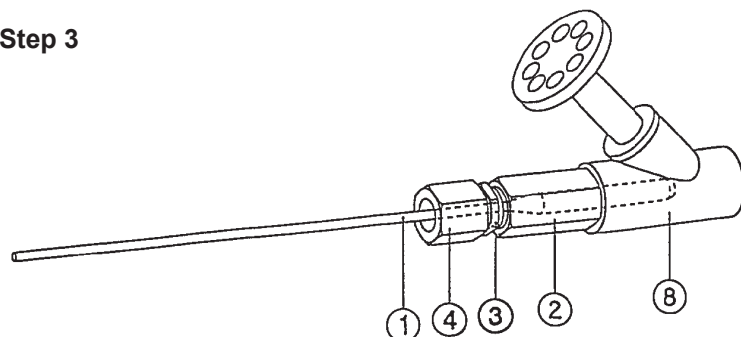

Fig. 5 - assembling the sluice
Fig. 5 shows how the sluice with the glassfibre probe ① is mounted on the stop valve ⑧.